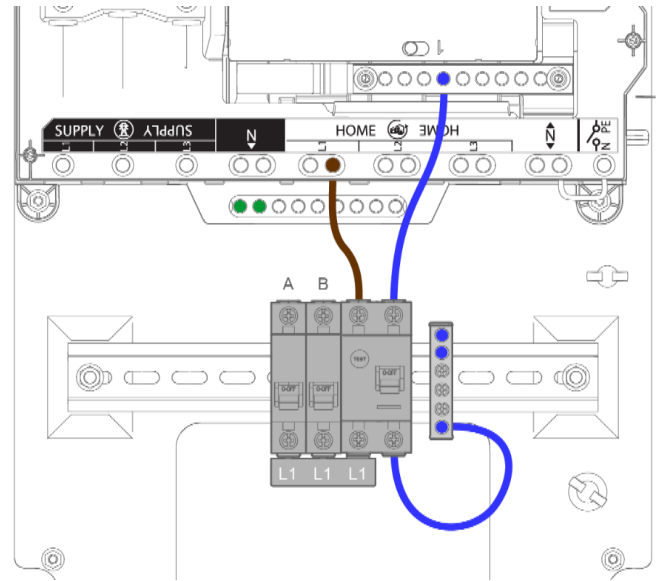

Figure 11: Single Phase Wiring Example Using RCD Main Switch
2. Connect the line conductors from the bussed generation circuit breakers to the Backup Gateway's Backup terminals (Figure 11). These conductors must be appropriately rated to carry the current of the main supply fuse.